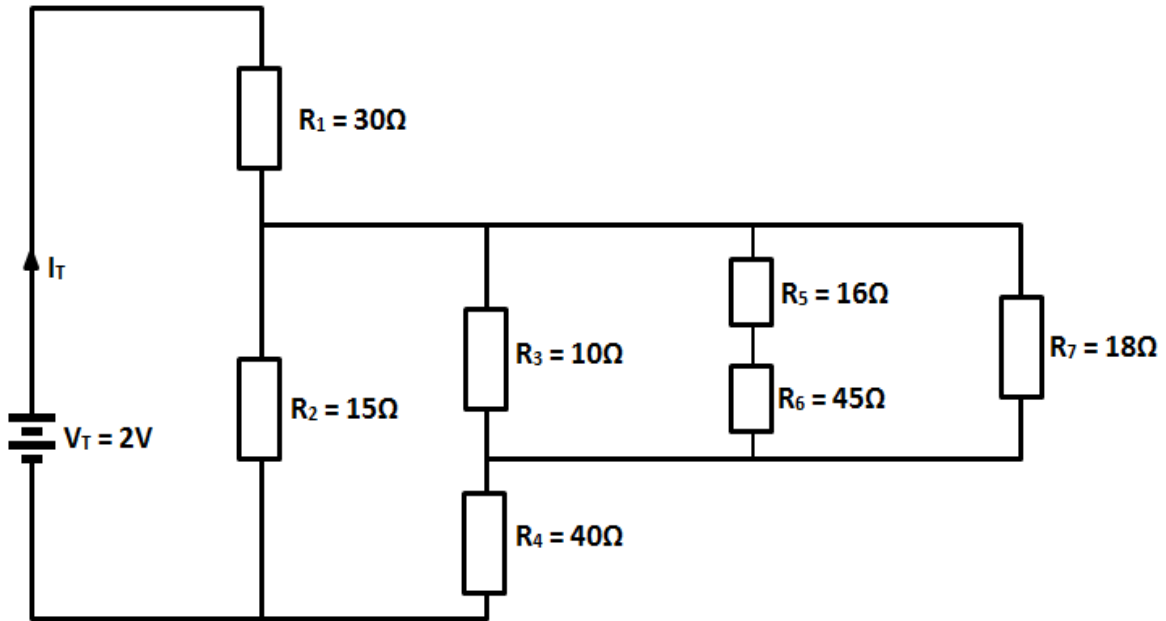

FIGURE 1
3.1 Study FIGURE 1 below and answer the questions.